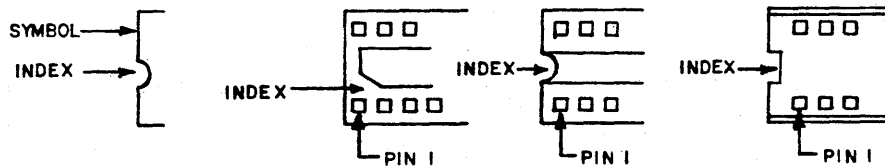

FIGURE 1
- [] Install the 8, 14, 16, and 24 pin sockets on the printed circuit board. Orient pin 1 towards the top of the board or to the left, as applicable. See Figure 1 for information on locating Pin 1 on each socket.